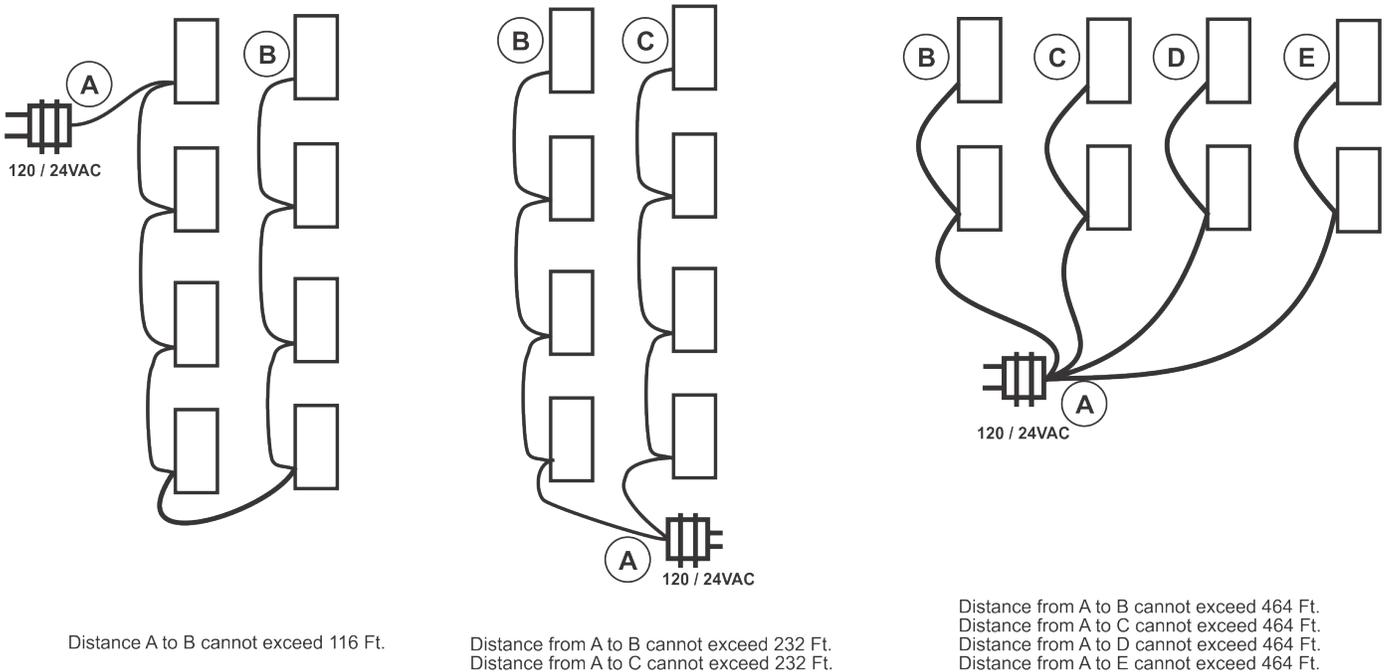

Figure 8: VAVZB Package With Terminal Blocks Transformer Sizing
1. Size and wire the transformer to be used for powering the VAVZB(s) per the instructions. Failure to size the transformer and/or wire the VAVZB(s) correctly may cause the VAVZB to operate erratically or not at all. See **Figure 8, page 16** for wiring and transformer sizing information.